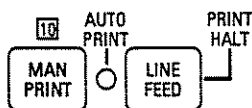

Figure 3-12: Printer Control Keys
3.2.10 Printer [4]: See Fig 3-12.